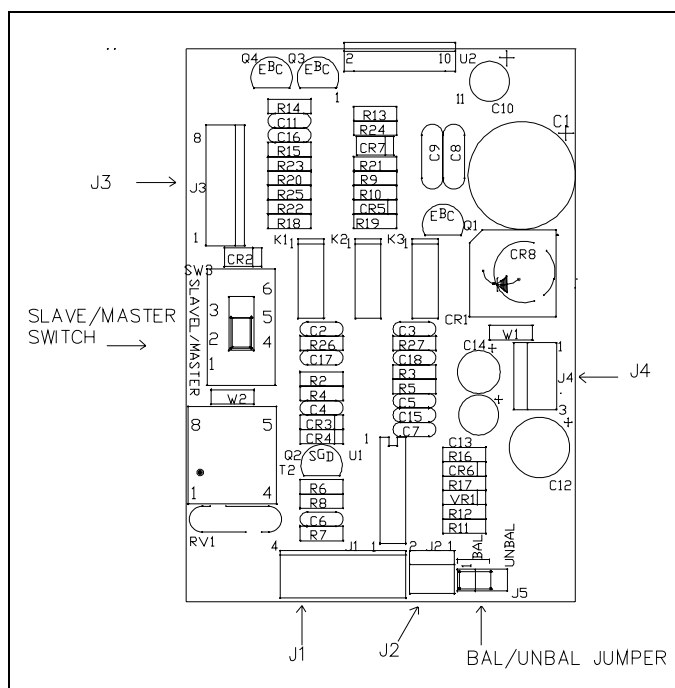

Figure 1. PCBA switch/jumper location
1. Before installing the new PCBA, modify the new PCBA's SLAVE/MASTER switch and the BAL/UNBAL jumper settings to match the old PCBA's settings, if necessary. Refer to Figure 1.
11. Carefully reconnect the following connectors to the PCBA (refer to Figure 1: